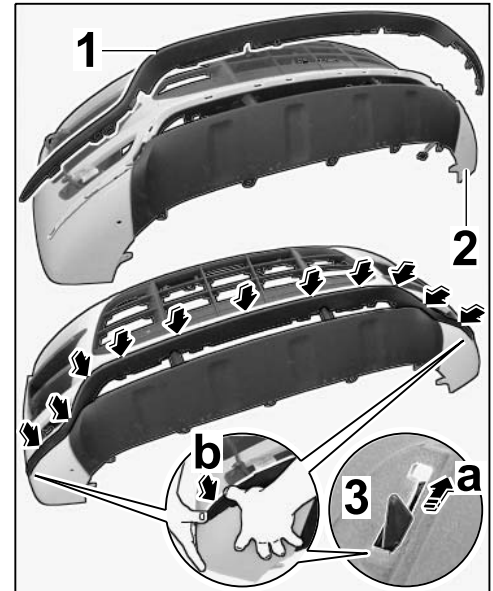

Figure 14
2.7.1 Position skid plate in the gap on the front apron (⇒ *Figure 14 -Arrows-*). First guide the (outer) tab at the left and right (⇒ *Figure 14-3-*) into the front apron ⇒ *Figure 14 -arrow b-*.
The (outer) tabs slide into their end position (⇒ *Figure 14 -a-*).